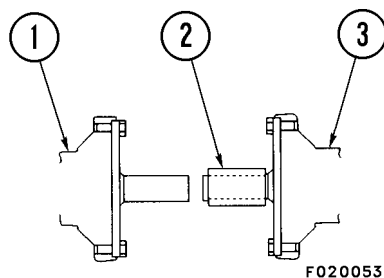

FIGURE 2-34. SHAFT ALIGNMENT
1. Install alignment tool (2, Figure 2-34) to the couplings at the engine end and torque converter end.